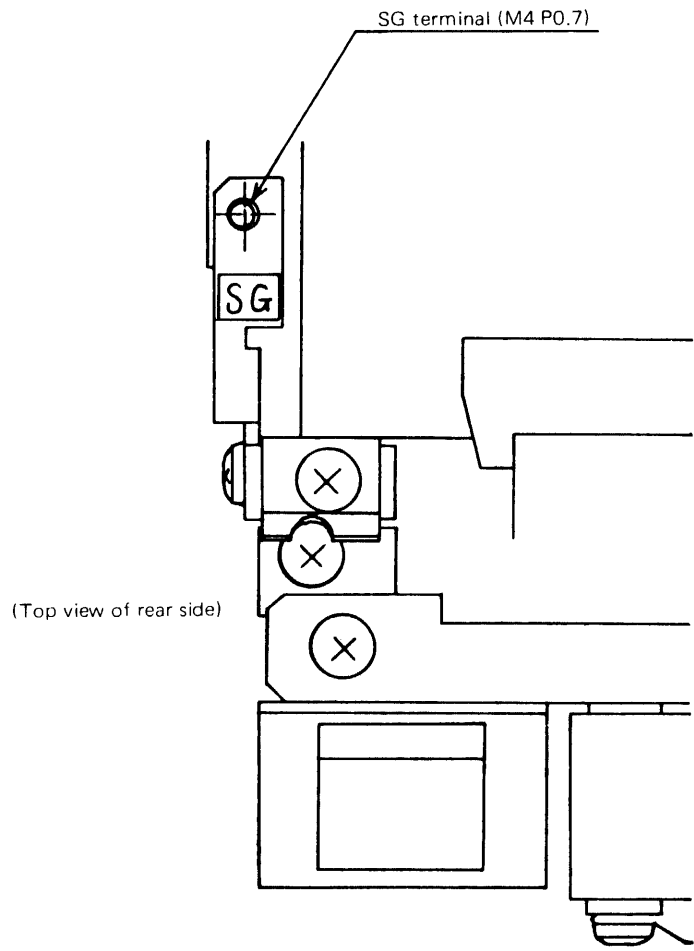

Figure 3-6-7 SG Terminal
- (1) This drive unit is uniformly grounded at the signal ground (SG) connector. If FG and SG connection is required on the system, use the SG tap at the back of the unit, shown in Figure 3-6-7.